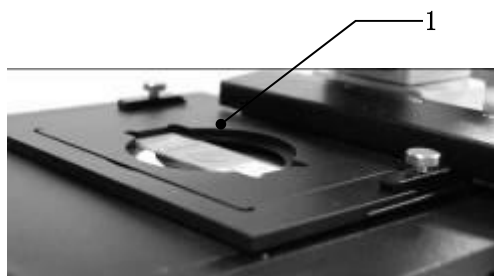

Fig.11
- 1) To observe a slide specimen, the slide can be placed directly on the culture dish holder 1. To observe tissues in a culture dish, determine the culture dish holder to be used based on the external dimensions of the culture dish (refer to the technical specification table for the allowable culture dish dimensions), as shown in Fig. 11.